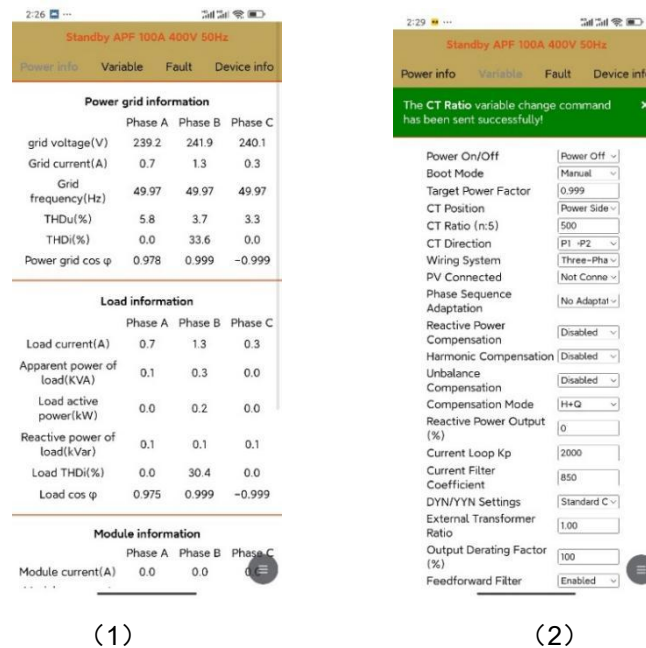

Figure 10 Monitoring Operation
2. In the data information, you can monitor the data of the power grid, load and electrical data of the equipment in real time, as shown in Figure 10(1).
3. In the variable settings, you can set the variables that can be set for the equipment. After the variable settings are completed, a green success setting mark will appear at the top of the interface, as shown in Figure 10(2).